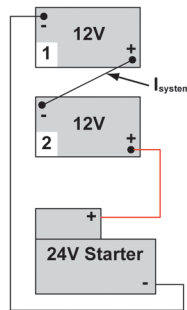

Figure 12-5: Series Battery Connection Cables - Carried Current
- For batteries that are in series, the connection cables carry the same amperage as the batteries they connect (see Figure 12-5).